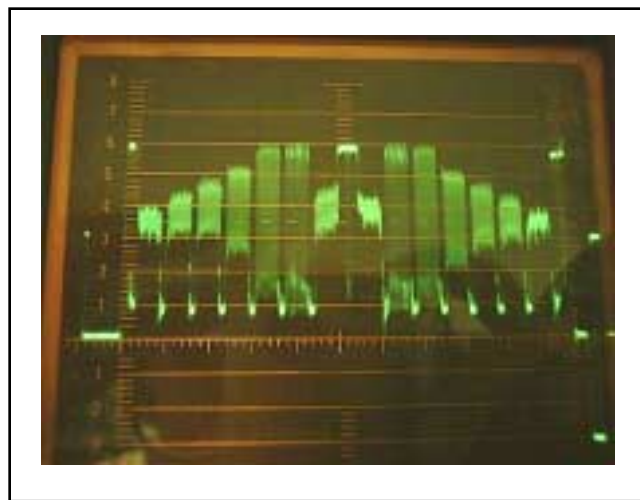

Figure 4
9. Verify that the waveform remains symmetrical when the focus knob on the control panel is turned. (See Figure 4.)